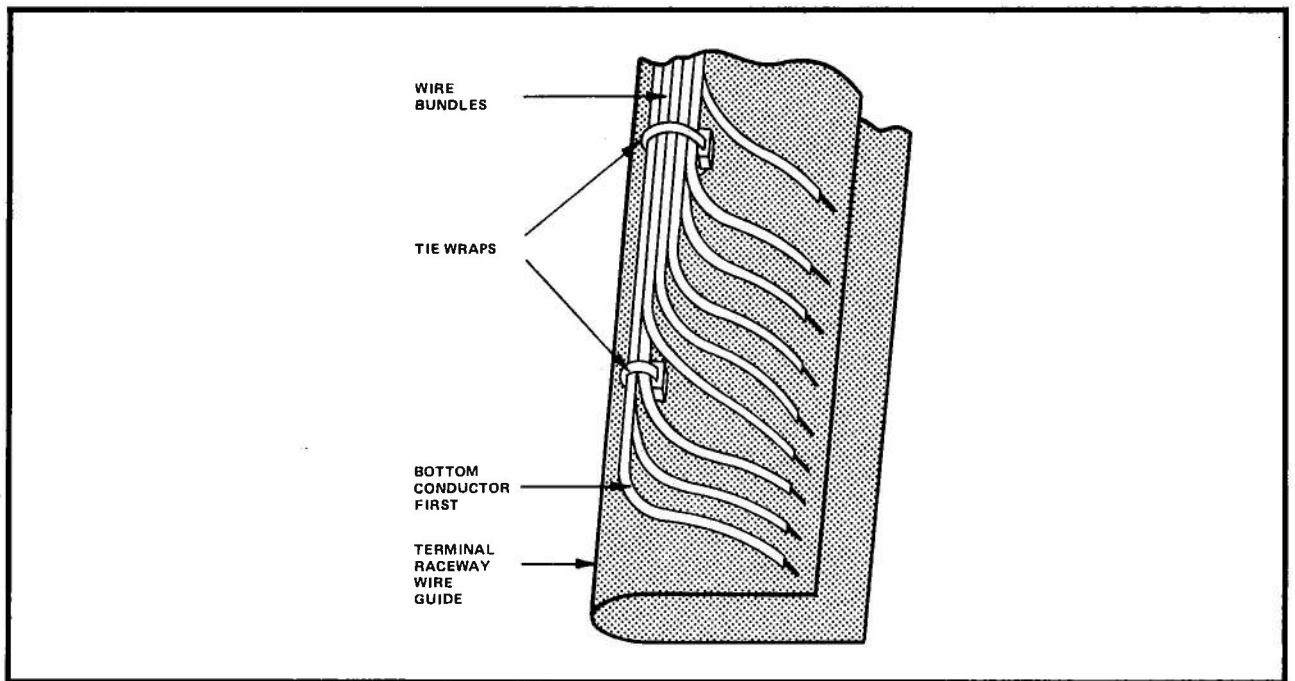

Figure 7-37. Bundled Wires within Wire Guide
5. During this process, use plastic tie wraps (as required) to keep the wire bundles neat. Figure 7-37 illustrates bundled wires within the raceway wire guide.